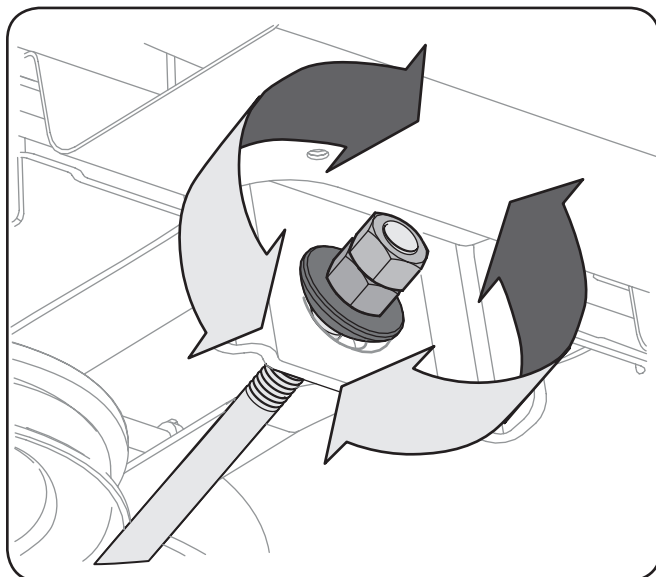

Figure 6-5
1. To *raise* the front of the deck, loosen the outer nut then tighten (thread inward) the nut against the front hanger bracket. See Figure 6-5. When proper adjustment is achieved, re-tighten the outer nut.
2. To *lower* the front of the deck, loosen the outer nut then loosen (thread outward) the nut, away from the front hanger bracket. See Figure 6-5. When proper adjustment is achieved, re-tighten the outer nut.